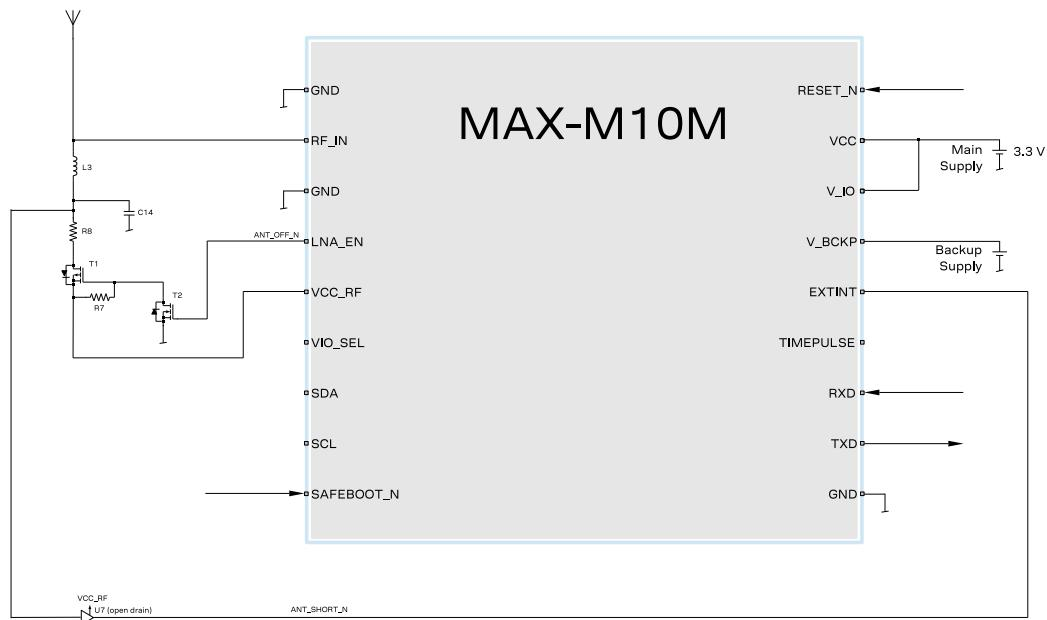
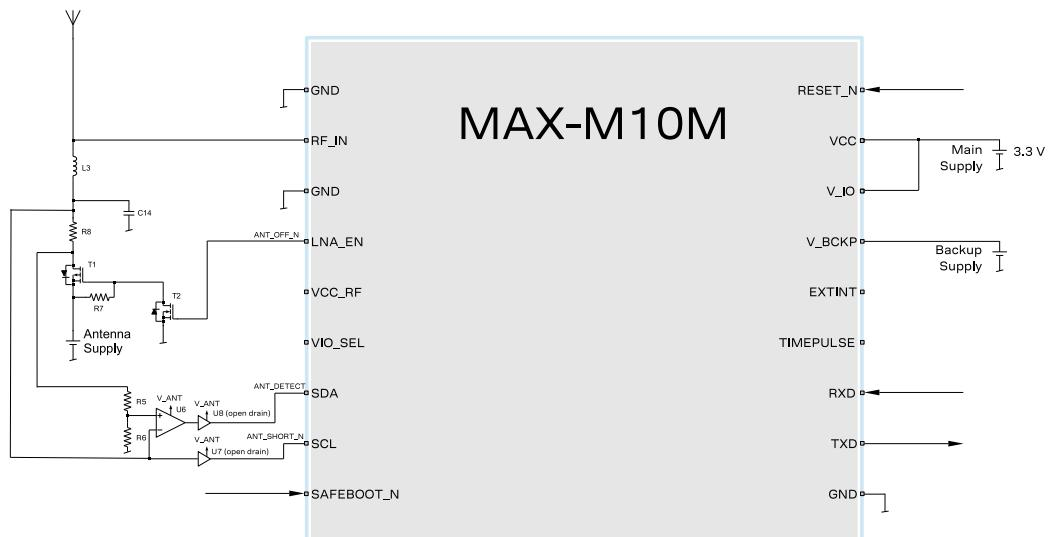

Figure 38: 2-pin antenna supervisor design
Figure 39: 3-pin antenna supervisor design
- This design uses an active antenna, which can be supplied either with the VCC_RF output from MAX-M10M, as shown in Figure 38, or from an external supply, as shown in Figure 39. It is also possible to use a passive antenna in the design. Only use a good quality passive antenna to avoid performance degradation compared to an active antenna setup.
Figure 38 and Figure 39 show a reference design for a 2-pin and 3-pin antenna supervisor design respectively. Here are some key features:
- UART and I2C communication interfaces are available. I2C PIOs (SDA and SCL) can be used in a 3-pin antenna supervisor design as shown in Figure 39. In this case, the I2C interface needs to be disabled before assigning the new function to the PIOs.
The 2-pin antenna supervisor configuration required for the Figure 38 reference design is listed in Table 35.
The 3-pin antenna supervisor configuration required for the Figure 39 reference design is listed in Table 36.